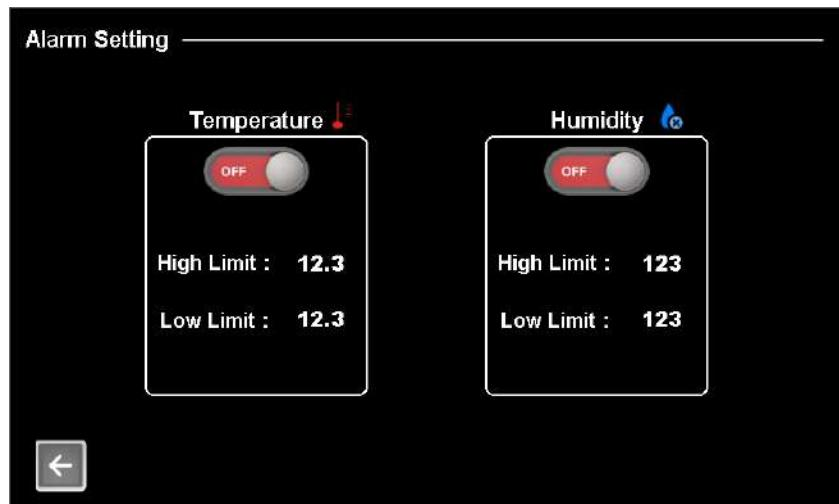

Fig.5
- *System Setting:* Configuration and calibration (Fig. 5)
## ■ Alarm Configuration (Expanded) (Fig. 5)